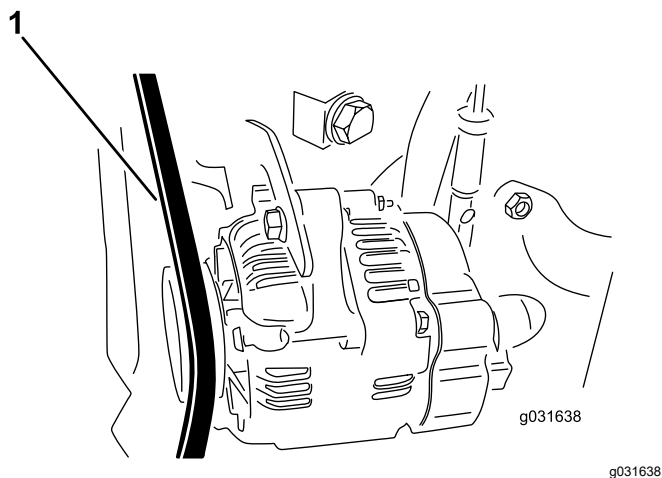

Figure 60
2. Apply 30 N (22 in-lb) of force to the alternator belt, midway between the pulleys (Figure 60).